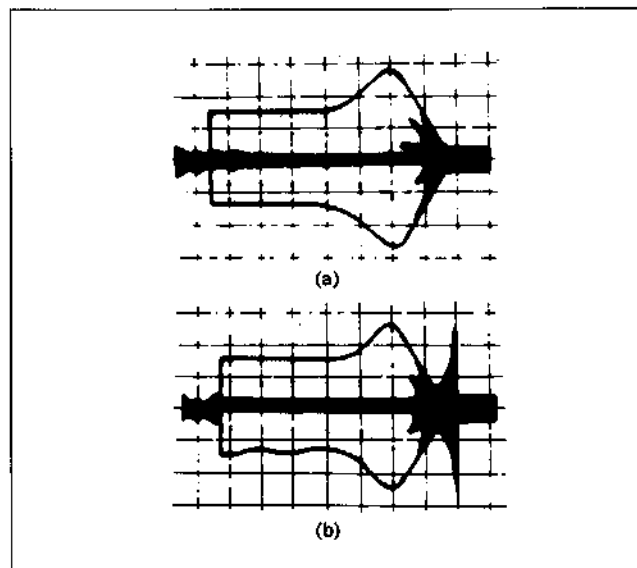

Fig. 7-42.
- 5) Make sure that the exit free waveform is within the range specified by the graphs (a) and (b) in Fig. 7-42.